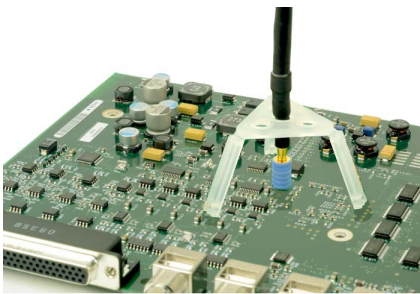

Figure 8: Connecting to an adapter on the circuit board with the probe tip tripod
5. Connect the sensor tip cable end to the DUT. If you are using MMCX sensor tip cable, connect it to an MMCX connector on the DUT or to a square pin adapter on the DUT. The adapters connect to square pins with either 0.100-inch (2.54 mm) spacing or 0.062-inch (1.57 mm) spacing. Figure 8 on page 34
When the adapters are firmly in place on the circuit board connect the sensor tip cable to the top of the adapter while using the probe tip tripod to ease the tension off the probe tip cable and adapter. Figure 8 on page 34